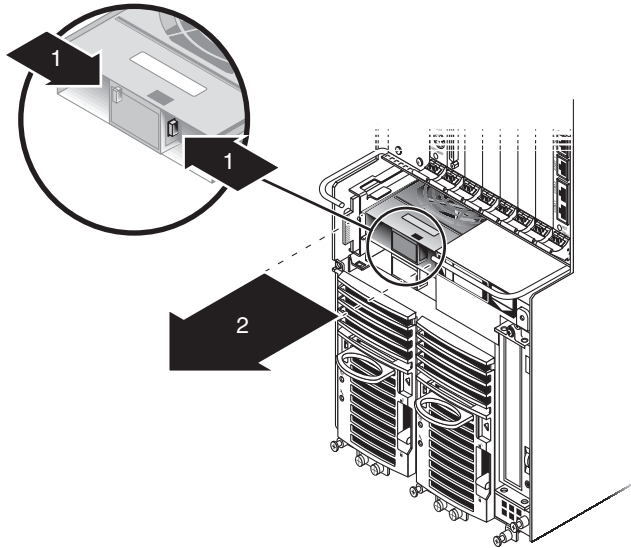

FIGURE 8-19 Removing a Fan Tray from a Netra CT 810 Server
- If you are removing a fan tray from a Netra CT 810 server, squeeze on the tabs on the sides of the fan tray handle to disengage it from the server (FIGURE 8-19).
- If you are installing a fan tray into a Netra CT 810 server, press the fan tray into place until the fan tray clicks into place (FIGURE 8-19).